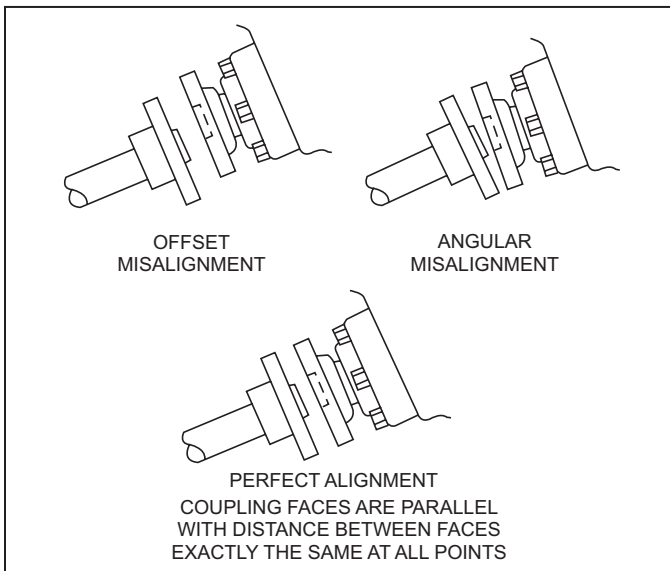

Figure 11-26 Shaft Mating Surface Check
3. Check that the coupling center lines align by butting the propeller shaft coupling against the transmission coupling (Figure 11-26). The shoulder on the propeller shaft coupling face should engage the recess on the transmission coupling face, with no resistance.